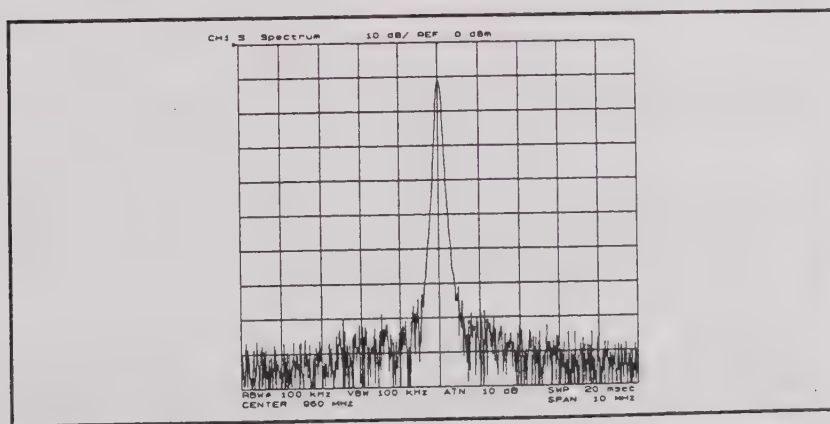

Figure 3-21. Burst Signal Measurement Using Gated Sweep
3. Press **GATE LENGTH** 30 **(M/μ)**. The analyzer displays only the RF signal spectrum as shown in Figure 3-21.